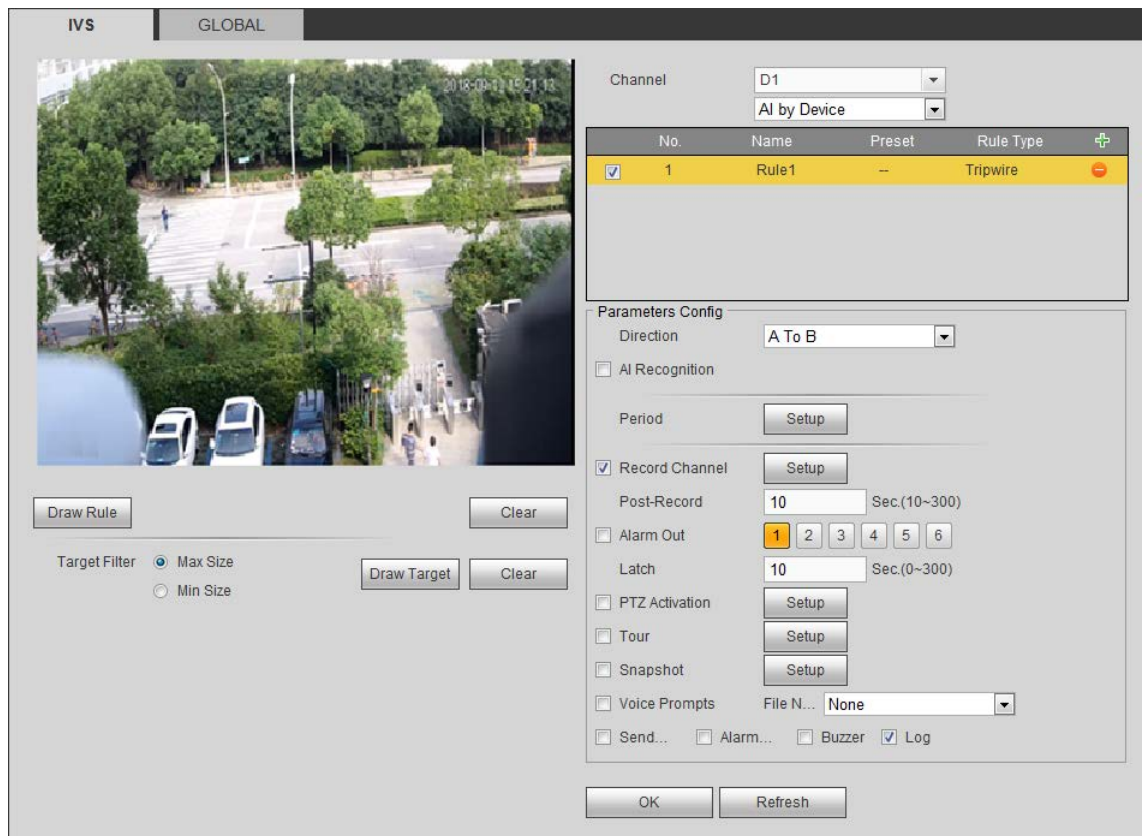

Figure 5-67
Step 4 Click and select the corresponding rule type according to the actual needs. See Figure 5-67.